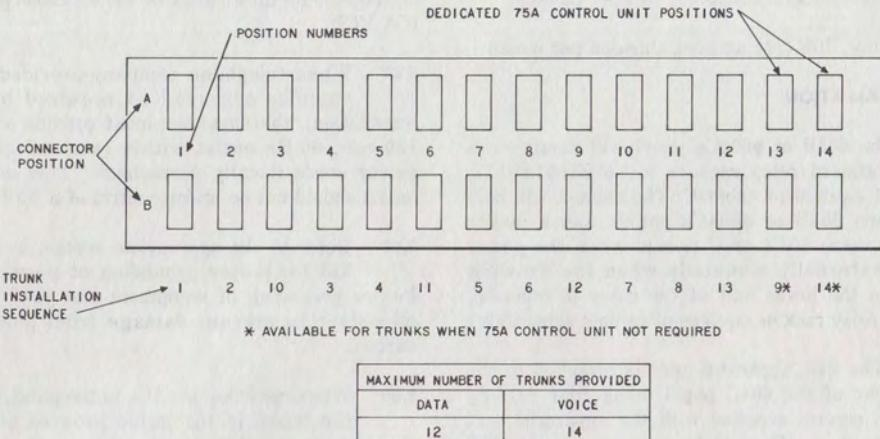

Fig. 5—Connector and Trunk Arrangement in 604B and 604C Panels
2.05 ♦Fig. 5 shows the relation between connectors and trunks in the panel. The IUs should be installed in the **trunk** sequence shown to appear on the interface blocks in order.♦